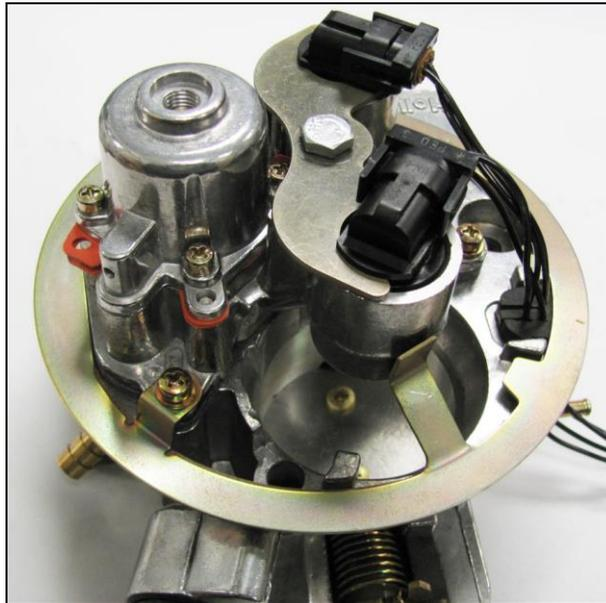

Figure 2
1. Install the air distribution ring as pictured in **Figure 2**. Remove the injector pod mounting screw that corresponds to the retaining tab of the distribution ring. Install one of the supplied air cleaner gaskets under the distribution ring and the second on top of the ring. Reinstall the screw, torquing it to 18 in./lbs.